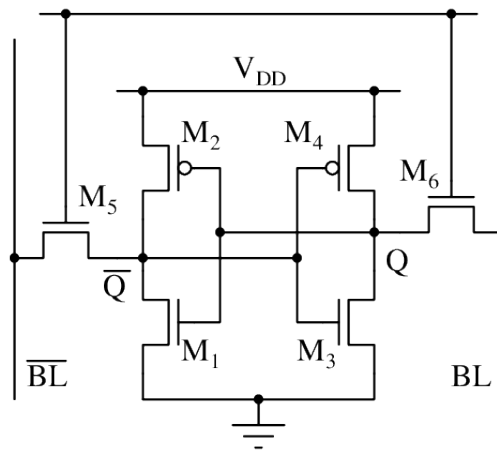

Fig. 7
(c) Fig. 7 shows the typical implementation of the static random access memory (SRAM) cell.
- (i) Explain the procedure to write logic '1' to the cell with reference to Fig. 7. [15%]